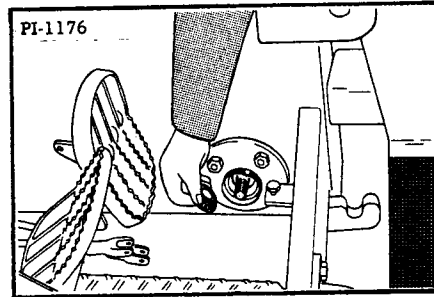

Fig. 79 Mounting the Inside Bearing
6. Mount the inside bearing (Figure 79) spacers and washer.